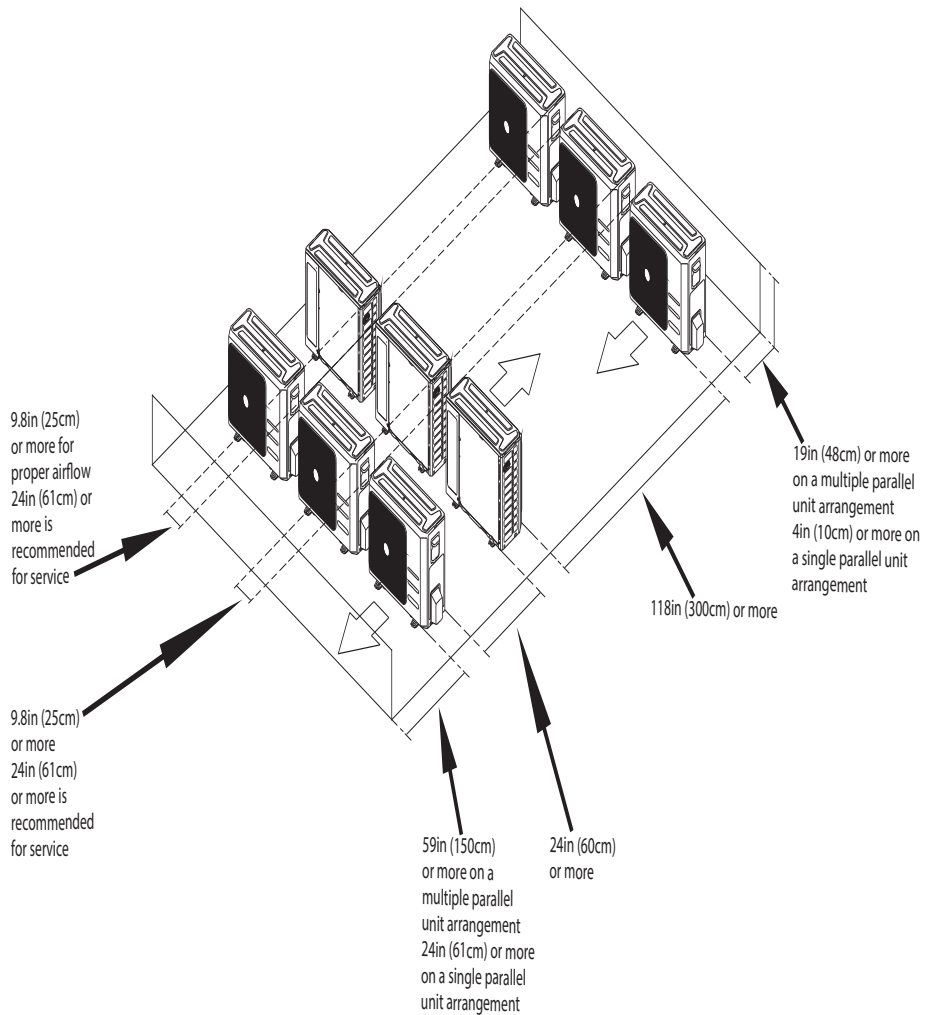

**Fig. 3 – Outdoor Unit Clearance**
Allow sufficient space for airflow and service of the unit. See Fig. 3 for the required minimum distances between the unit, walls or ceilings.
- A location which provides appropriate clearances (see Fig. 3).